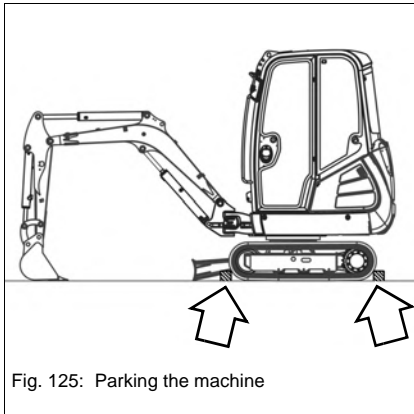

Fig. 125: Parking the machine
10. Secure the tracks accordingly (chocks, blocks, for example) as shown in Fig. 125.